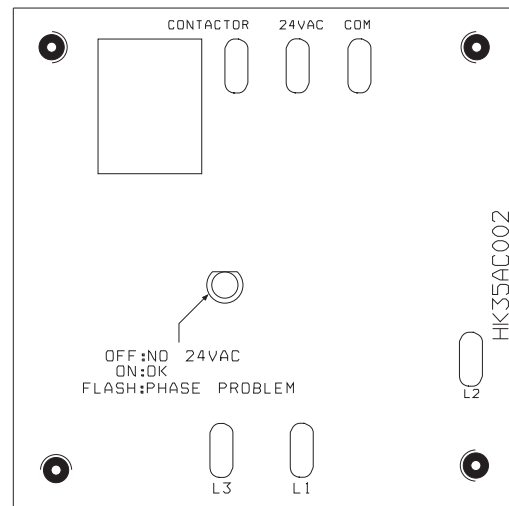

Fig. 10 – 3 Phase Monitor Control
- A flashing LED on phase monitor indicates reverse rotation. (See Fig. 10 and Table 3.)